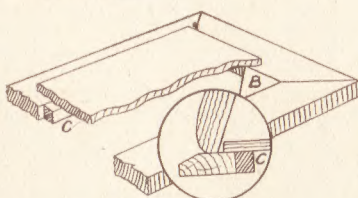

Fig. 1—Floor construction
Fig. 1. The latter consists of four mitred strips, given full size on the pattern page. Mark these out on to the $\frac{1}{4}$ in. or $\frac{3}{8}$ in. wood and cut them in the usual way with the fretsaw.
The four pieces are glued together, and the inside angles may be further strengthened by adding four glued angle blocks as seen at (B) in Fig. 1. On this open
frame will be glued the $\frac{1}{4}$ in. thick floor measuring 6 $\frac{1}{2}$ ins. by 2 $\frac{1}{2}$ ins. This is seen in Fig. 1 as a sectional diagram and shows how the piece must have an equal margin each side and each end of the mitred base strips so as to allow the sides and ends of the box, when made up, to stand evenly all round.
The enlarged circled diagram in Fig. 1 shows, by section, how one end of the box will appear when it is glued to the base and in relation to the floor piece. Small square glued blocks about $\frac{1}{4}$ in. in section and cut from spare wood may be added beneath the floor as seen at (C) in Fig. 1.